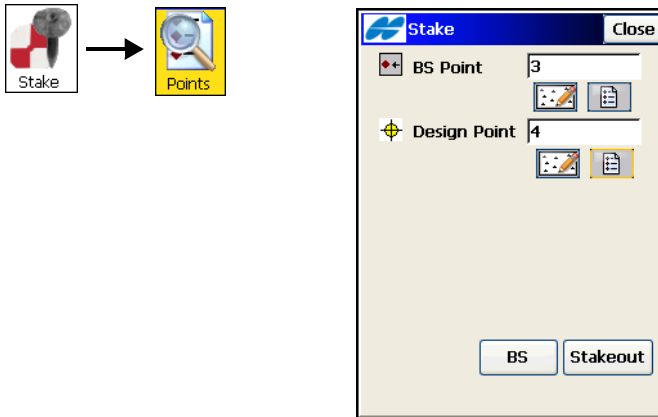

Figure 9-53. DL Stake Point
2. On the **Stake** screen (Figure 9-53 on page 9-41), enter or select from the map or list the backsight point for the stake measurement and a design point to stake.